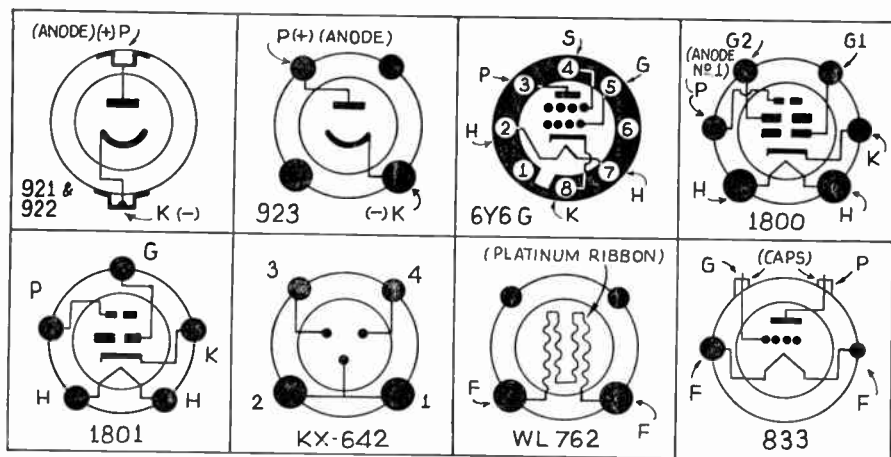

Fig. 4. Underside connections of new tubes.
**Infra-Red, Gas-Type Prong-Base Photocell; Type 923.** Because of the high sensitivity of this type cell, which can "see" radiations in the infra-red region quite invisible to the naked eye, it is particularly useful in applications where incandescent lamps are employed as light sources. Base connections are given in Fig. 4.
**Infra-Red, Gas-Type Cartridge-Base Photocell; Type 921.** Substantially identical characteristics to the type 923, but with cartridge-type base like the type 922 photocell. Also, the 921 has a window area of only 0.38-sq. in.; input capacity is 1.1 mmf. Load resistance, not over 10 megohms. Base connections in Fig. 4.
Characteristics: cathode, caesium-coated and semi-cylindrical; window, 0.38-sq.-in. Anode-supply voltage, 250 (max.); anode current, 30 microamperes (max.); load resistance, 1 megohm; sensitivity, 20 microamperes/lumen. Light response may be made practically linear for light inputs up to 1 lumen with proper adjustment of supply voltage and load resistance. See Fig. 4 for base connections.
Base connections appear in Fig. 4.
**Cathode-Ray Kinescope (Television Receiving Tube), 5-in. Size; Electromagnetic Deflection; Type 1801.** For the first time, experimenters now have available a commercial-built (as compared to the school-built type now being described in Radio-Craft) cathode-ray tube specifically designed for television-reception experiments! The screen is of medium-persistence type; the fluorescence color is yellow (phosphor No. 3); max. screen diameter, 5 1/16 ins. Base connections are given in Fig. 4. Additional characteristics follow:
**Cathode-Ray Kinescope (Television Receiving Tube), 9-in. Size; Electromagnetic Deflection; Type 1800.** Like the type 1801 kinescope this model has a medium-persistence screen; and phosphor No. 3 (yellow). Base connections are given in Fig. 4; and characteristic data follow:
Base connections are shown in Fig. 4; the operating current range is approx. 0 to 0.3-A.
Terminal connections are shown in Fig. 4.